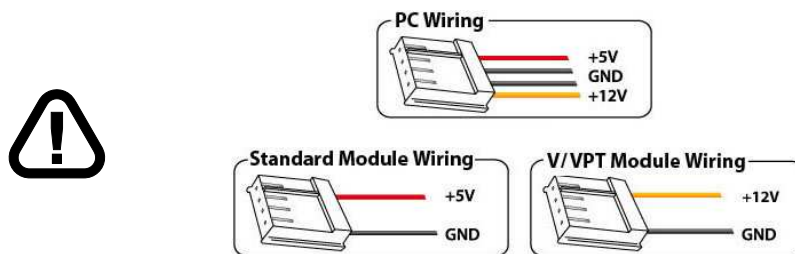

Figure 10: PC vs Matrix Orbital Display Module Wiring
- First, you will want to make sure that you are using the correct power connector. Standard floppy drive power cables from your PC power supply may fit on the Power/Data Connector however they do not have the correct pin out as can be seen in *figure 10 on page 7*. Matrix Orbital supplies power cable adapters for connecting to a PC, which can be found in the *Accessories Section on page 1*.